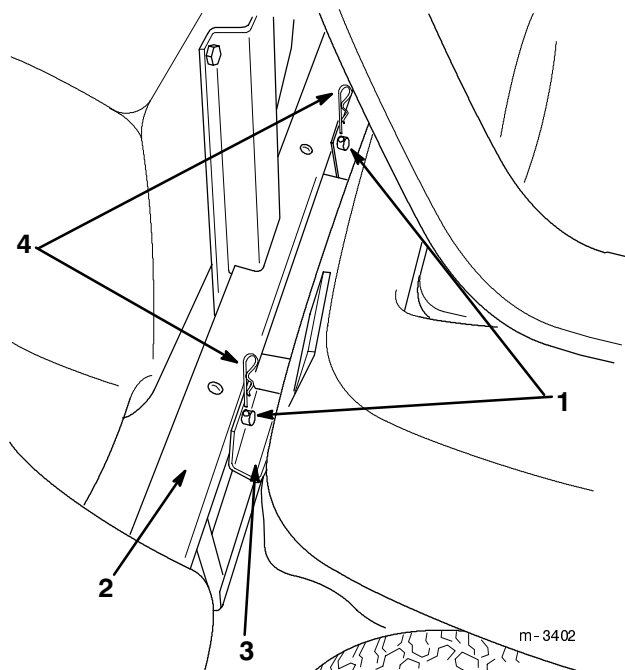

Figure 4
2. Rotate the grass catcher up so that the pins on the mounting frame slide through the holes in the upper mounting bracket on the tractor. Secure the pins with the hairpin cotters (Fig. 4).
3. Remove the hairpin cotters securing the grass catcher to the upper mounting bracket on the mower (Fig. 4). Rock the grass catcher backward, then pull it free of the mower hitch.